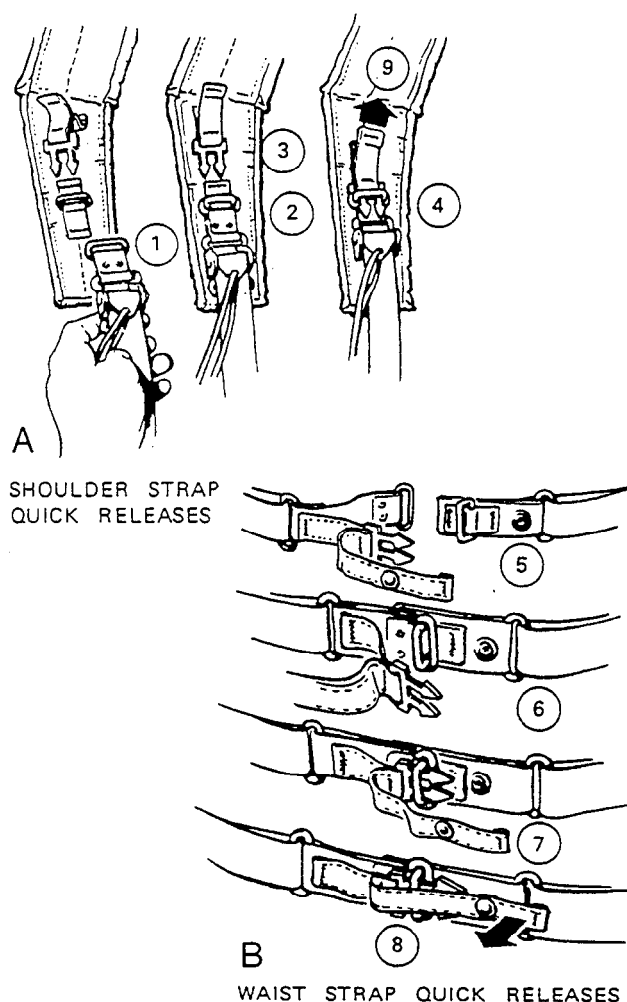

Figure 2-19.—Shoulder strap and waist strap quick releases.
Items 1 through 4 in view A of figure 2-19 show how the shoulder strap quick release is assembled. The metal
Items 5 through 8 in view B of figure 2-19 and item 9 in view A show how to assemble the quick release on the waist strap.